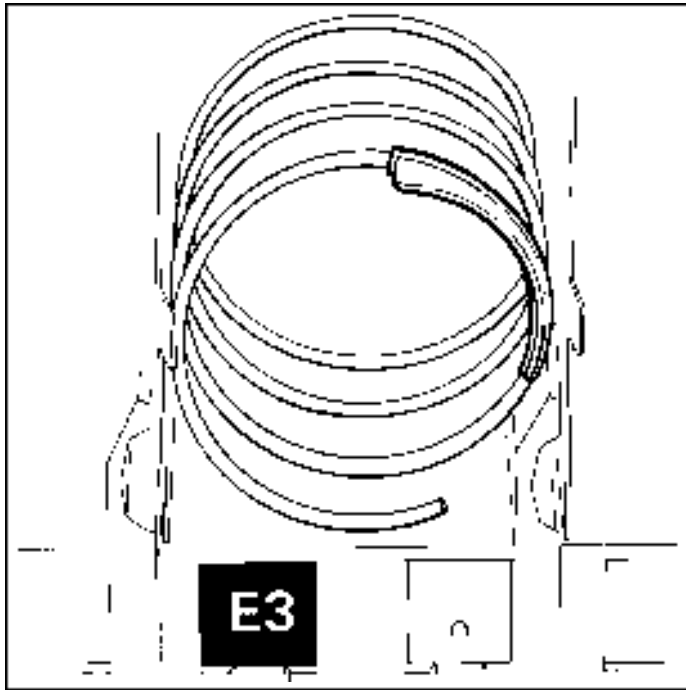

Figure 7. LOCATION OF PRODUCT PUSHER ON SPIRAL.
9. **PRODUCT PUSHER:** The machine contains enough pushers for you to install a pusher on each candy spiral. This plastic part is designed to push the top of the product forward while it is vending, helping it fall from the shelf. It can also be used with products that have the wrapper end flap on the outside of the package. In this case, the pusher prevents these products from hanging on the spiral by spreading the flap. The pusher is installed approximately 210 degrees from the front end of the spiral with the tab extending forward (see Figure 7). Locate the pusher in its proper position, hold it against the spiral wire and push the semi-circular part around the spiral wire. Note: Not every selection spiral will need a product Pusher. (Example—Box Items)